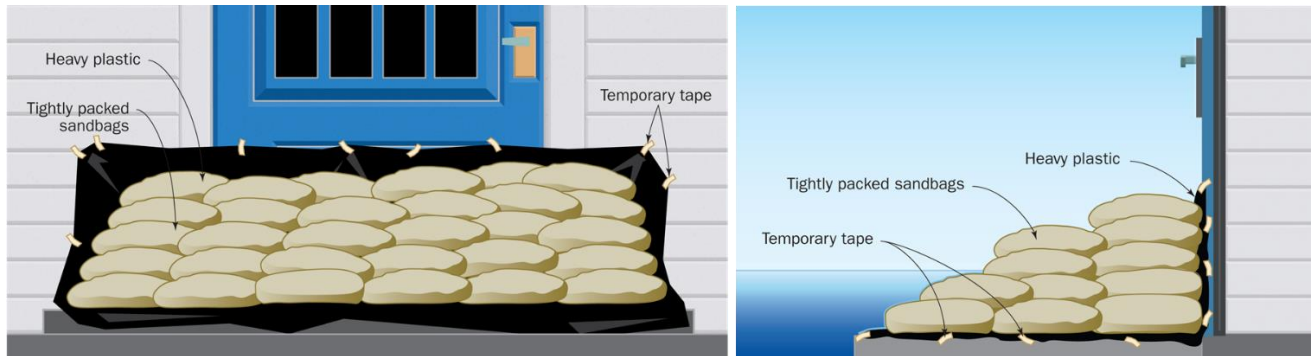

Figure 26. Sandbag Installation at Doorway
- **Use Temporary Barriers Across Doors and Windows.** Temporary barriers are measures that are put in place when heavy rainfall events are predicted. They might be a good option if other mitigation options won't be effective, or you want something to reduce damage while you investigate permanent options. Temporary barriers probably are the best option for slab foundation homes where it is difficult to waterproof the entire exterior wall. A variety of temporary barriers are available from vendors. However, they are effective only when properly placed. For example, heavy plastic sheeting should be placed behind sandbags and the bags must be tightly stacked, as shown in Figure 26.